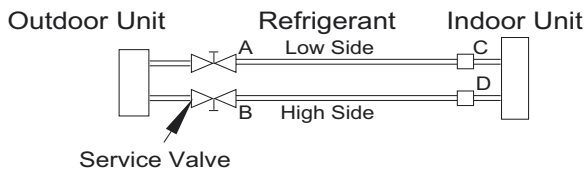

Fig. 18 — Service Valve
1. Completely tighten flare nuts A, B, C, D. Connect the manifold gage charge hose to a charge port of the low side service valve (see Fig. 18).